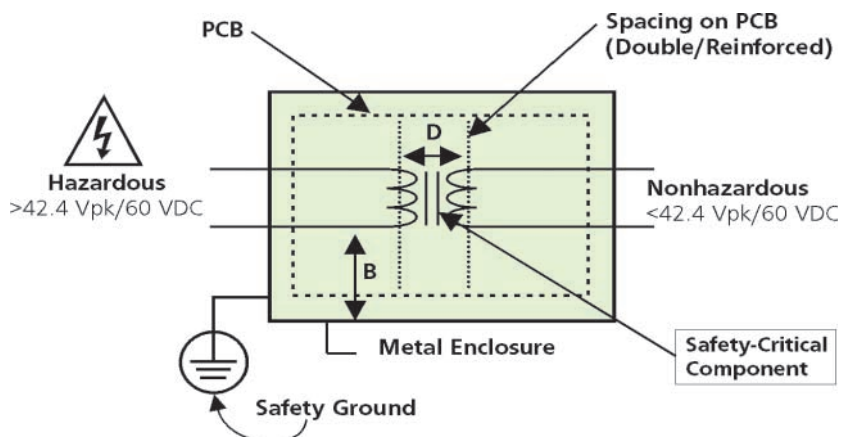

Figure 1. Insulation System
**Figure 1** illustrates an insulation system where hazardous live voltage is separated from nonhazardous voltages by double insulation, and the enclosure is separated from hazardous live by basic insulation. If the enclosure were not safety grounded, double insulation would be required.